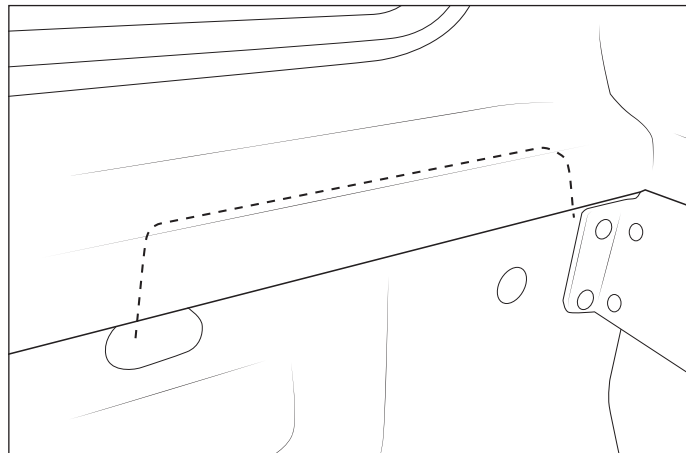

Figure 15
7. The spare tire must sit flush against the bedside. Temporarily place tire into position and mark the inside flange of the bed cap where the tire makes contact (fig. 15).